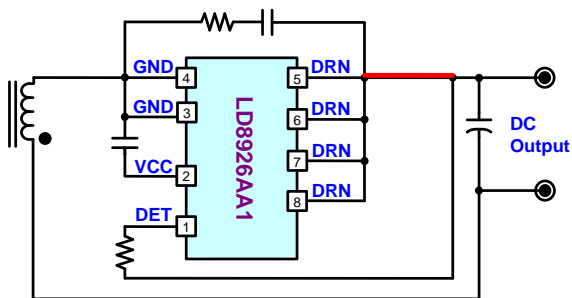

Fig. 15
5. To let MOS be turned OFF in time, keep 5nH~20nH inductance of PCB trace as shown in Fig.15 & Fig. 16 in red lines. The suggested trace configurations are listed below: